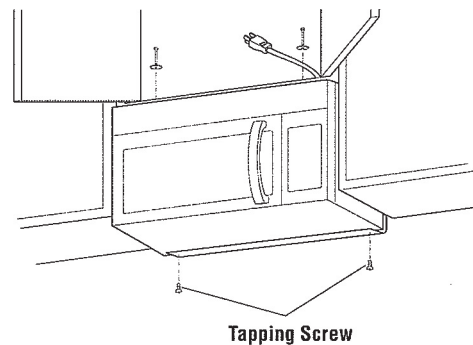

Figure 16
3. Use the two Top Cabinet Screws and two Flat Washers, supplied in the INSTALLATION HARDWARE, to attach the unit to the top cabinet. See Figure 16.
4. Secure the bottom of the oven to the Mounting Plate by using two Tapping Screws 4 x 8 mm from the INSTALLATION HARDWARE. See Figure 16.